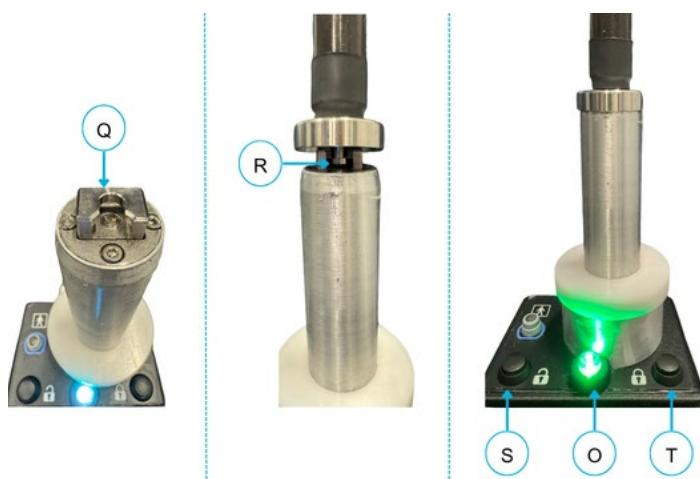

Figure 10-20: Motor Control Box and Stabilizer Arm Connection
15. Slide the metallic connector pin end of the TRUS (short) Stabilizer Arm (**R**) into the slot (**Q**) on top of the left Motor Control Box (**Figure 10-20**).
16. Press and Hold the black **Lock** button (**T**) to engage and lock arm (**Figure 10-20**).